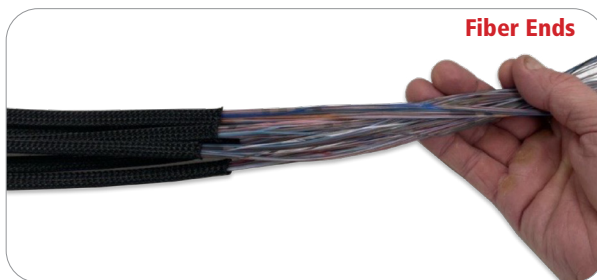
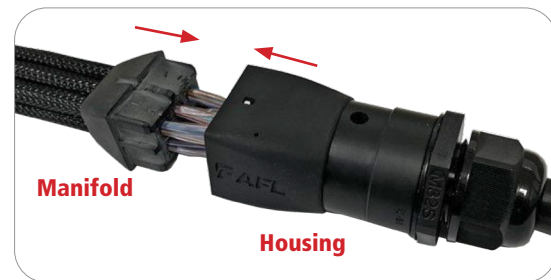

Figure 5a
Figure 5b
- E. Remove the manifold if it was secured to a surface or vice in **step 3A**. Next gently pull on the fiber bundle ends (**Figure 5a**) to carefully slide tubes/mesh along the fibers to bring the manifold and the housing together (**Figure 5b**). Leave 1-2 inches of fiber visible between the manifold and the end of the housing, do not yet join the housing to the manifold (**Figure 5b**).